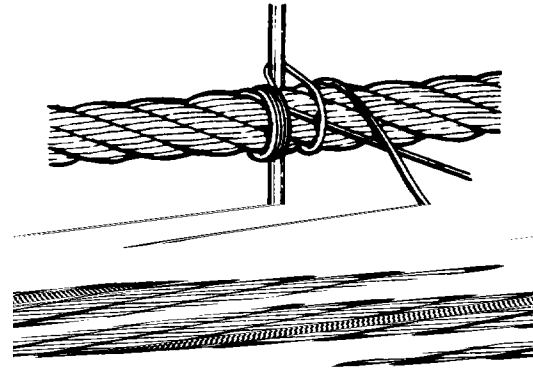

Figure 4-29. *Seizing Wire Rope - Method A*
1. Method A: Lay one end of the seizing wire in the groove between two strands; wrap the other end tightly in a close helix over a position of the groove using a seizing iron (a round bar 1/2 to 5/8 in. diameter by 18 in. long) (Figure 4-29). Both ends of the seizing wire should be twisted together tightly, and with a finished appearance. Seizing widths should not be less than the rope diameter.